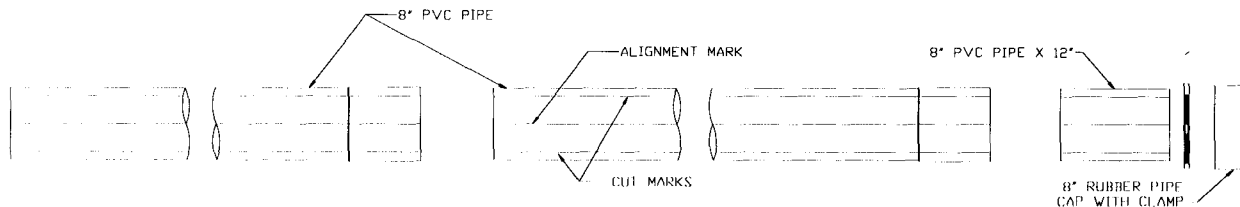

Figure 5
- D) These pipes are marked with three lines. The 8 inch pipe sections are to be glued together with the lines aligned from one pipe to another as shown in Figure 5. Using the PVC cleaner and cement supplied with the system (one quart container), glue all the 8 inch pipe sections together as shown in Figure 5 making sure the alignment marks are aligned.
- E) Install the 8 inch rubber pipe cap and clampton the end of the 12 inch section of 8 inch pipe as shown in Figure 5.